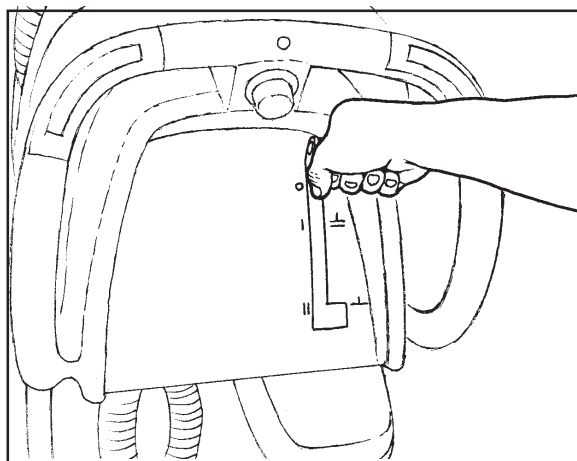

Figure 26
2. To raise the squeegee, lift the squeegee lever up (See figure 26.)